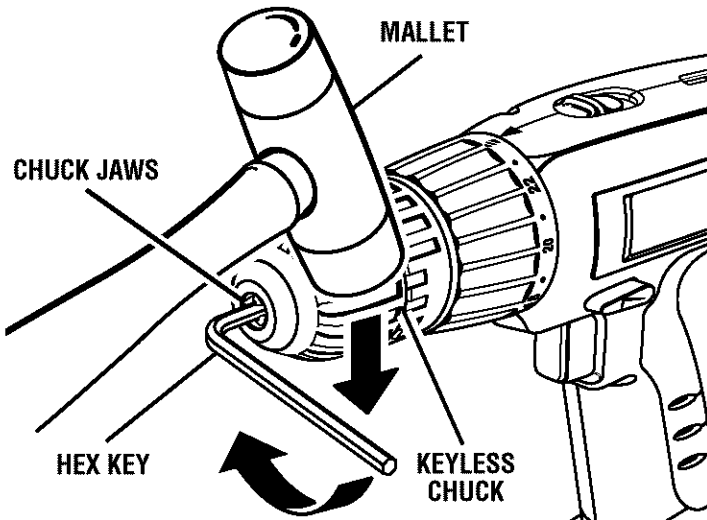

Fig. 13
See Figures 13, 14 and 15.
- Tap the hex key sharply with a mallet in a clockwise direction. See Figure 13. This will loosen the screw in the chuck for easy removal.